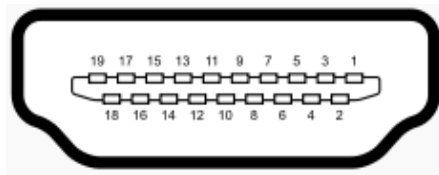

Figure 3-19: HDMI Connector
- CN Pinouts:** See **Table 3-3** and **Figure 3-19**